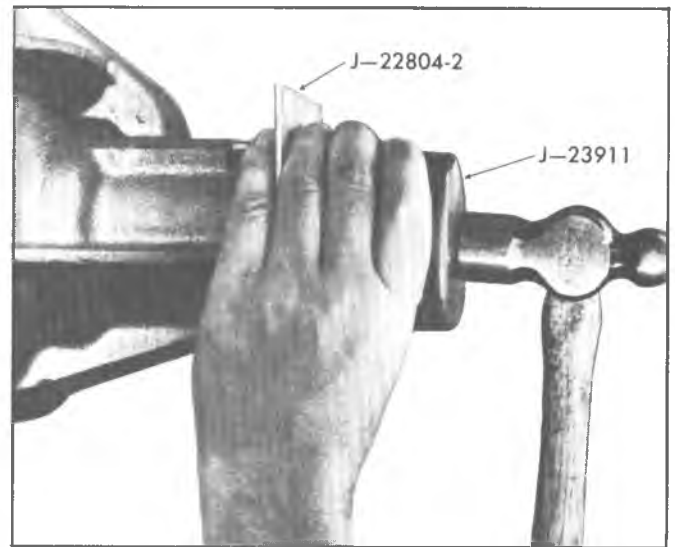

Fig. 26B—Installing Pinion Oil Seal—Truck
3. **For Truck Models** position seal in bore and place gauge plate J-22804-2 over seal and against flange. Gauge plate insures proper seating of seal in carrier bore. See figure 26B. Use J-23911 to press seal into bore until gauge plate is flush with the
6. **For Passenger Car**, position companion flange onto drive pinion, using J-9458 and companion flange Holding Tool J-8614-11, as shown in figure 26B. Tool J-9458-1 is threaded onto pinion shaft, and nut tightened against J-9458-2 to pull flange onto shaft. Remove J-9458 after flange is seated.